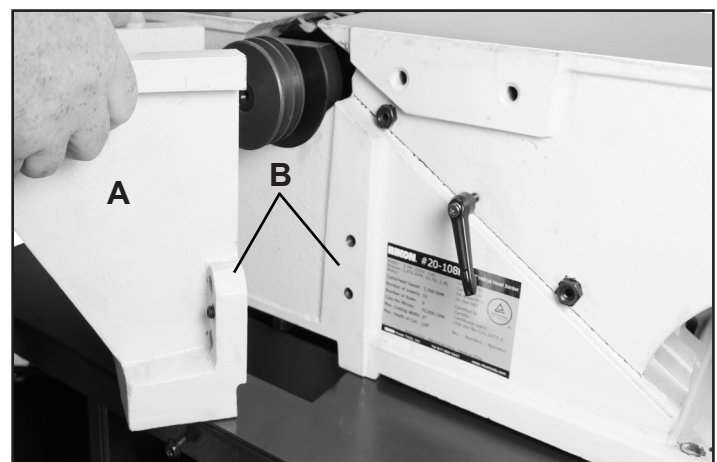

FIG. 7
1. Hold the Fence Mounting Bracket (A) over the cutterhead pulley and align the mounting holes (B) to the jointer base. FIG. 7.